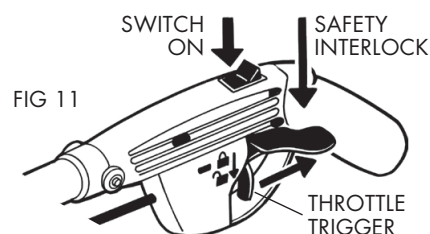

FIG 11
1. Switch engine on (Fig. 11). Engine starts on idle.
6. Throttle Trigger (engine accelerator control) is operated by pushing down interlock with thumb and pulling on trigger (Fig. 11).
5. **Use both arms extended downwards**, as in Fig. 16, hold both handle grips firmly. Accelerate engine by pushing down safety interlock with thumb and pulling trigger (Fig. 11). Do not overload motor, allow it to run freely. To stop blades rotating, release trigger.